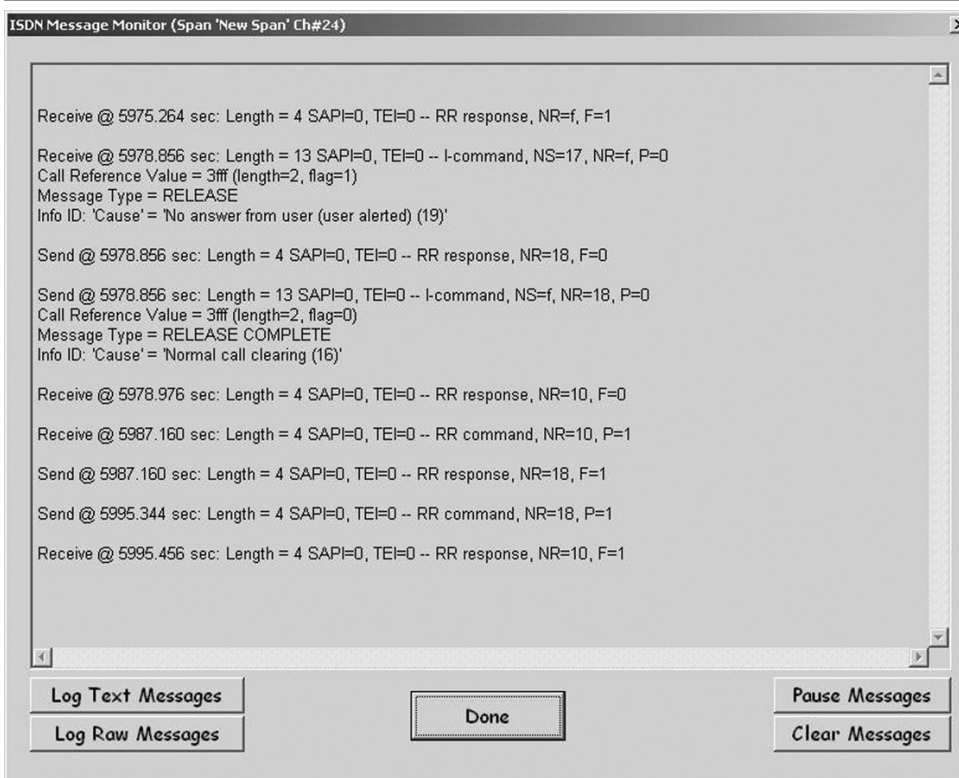

Figure 2.2.6
8. Located at the bottom right hand corner of the main test screen for ISDN D Channel test is a button labeled “msg...”. This button is not used for configuration set-tings, but is useful for ISDN debug situations. Clicking on this button launches a real time display of the ISDN traffic (see figure 2.2.6).